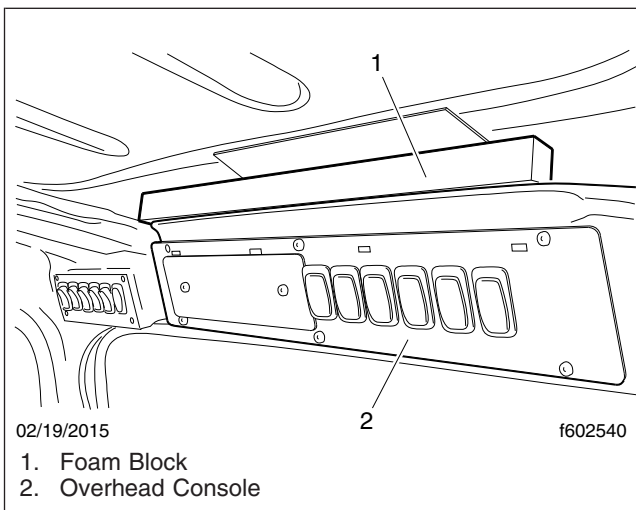

Fig. 1, Foam Block Installed
16. Peel the adhesive backing from the foam block, then install the block on top of the overhead console structure, with the adhesive side down. See **Fig. 1**.